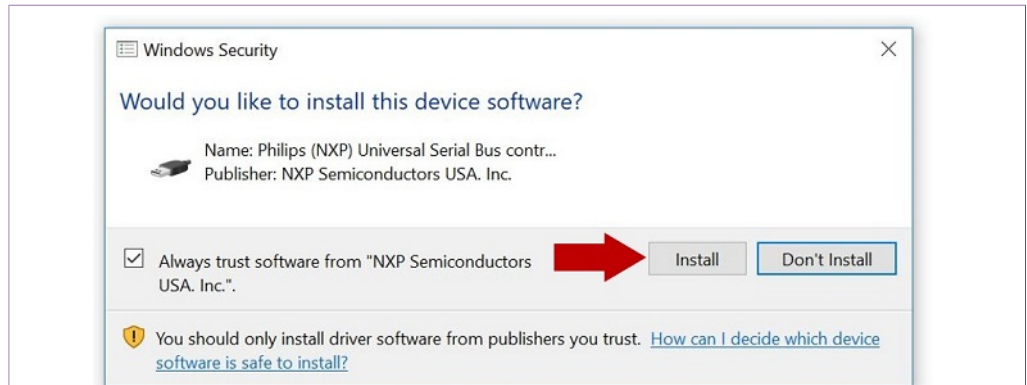
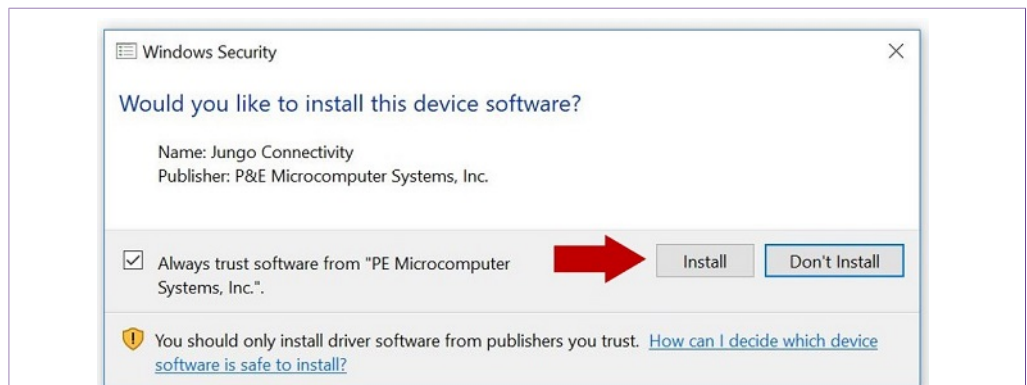
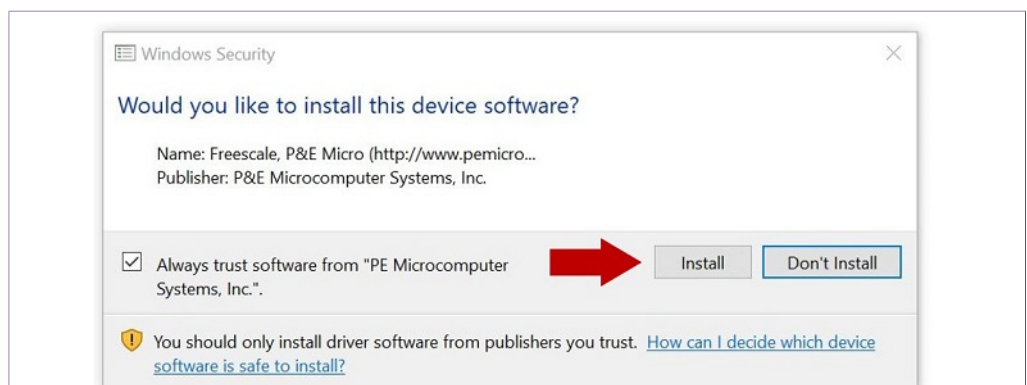
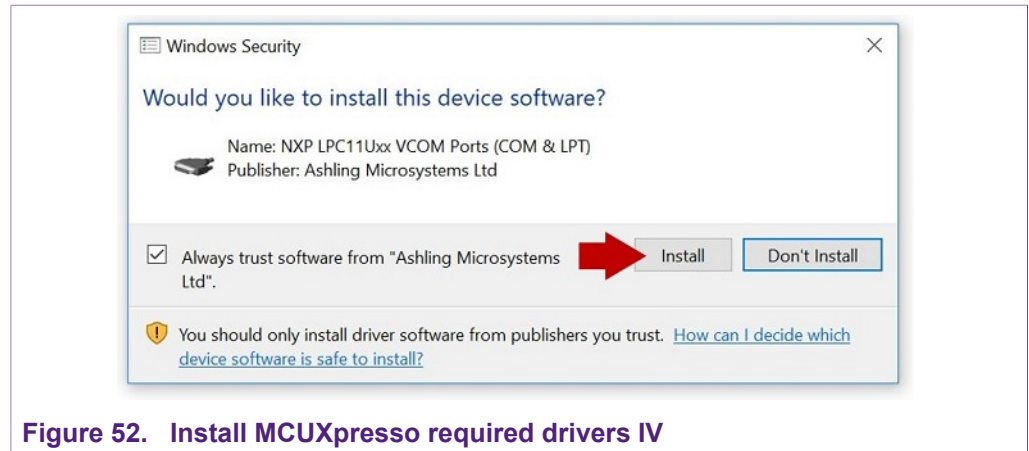

Figure 49. Install MCUXpresso required drivers I
Figure 50. Install MCUXpresso required drivers II
Figure 51. Install MCUXpresso required drivers III
Figure 52. Install MCUXpresso required drivers IV
7. Double click on the installer file and follow the setup wizard until MCUXpresso installation is completed. Please, make sure you allow the installation of the additional drivers required by MCUXpresso during the installation process as shown in Figure 49, Figure 50, Figure 51 and Figure 52: